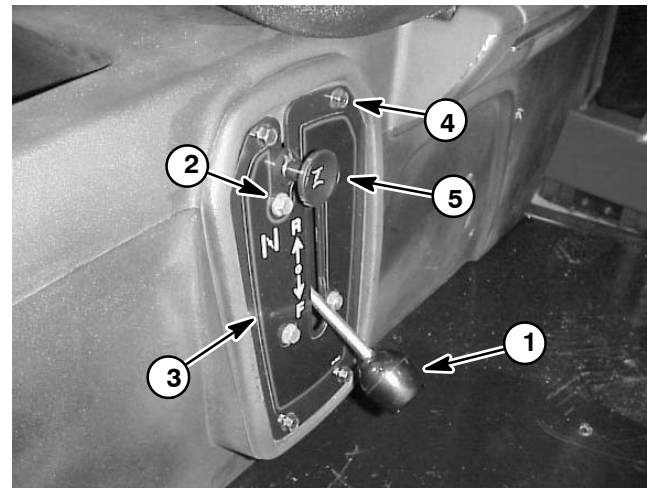

Figure 15
4. Unscrew knob from the shift lever. Remove four short cap screws securing the shift plate to the shift bracket (Fig. 15).
5. Remove four long cap screws securing the shift plate to the seat base (Fig. 15). Separate shift bracket from the choke cable and seat base.
4. Position choke cable and shift plate to shift bracket making sure to capture cable flange. Secure shift plate to shift bracket with four short cap screws. Screw knob onto the shift lever (Fig. 15).
5. Position shift plate with shift bracket to the seat base. Secure shift plate to seat base with 4 long cap screws (Fig. 15).